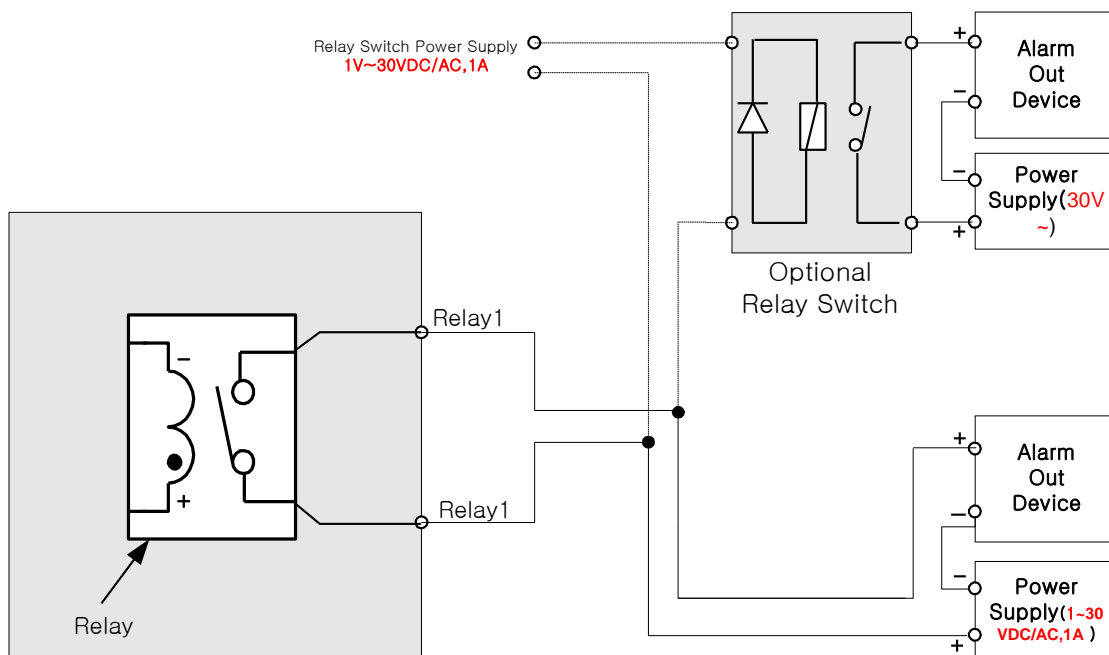

Fig. 6-5 Connection of Relay to Veilux VPIP-D110X / VPIPI-D110X
3.2 Connection of Relay(Fig.6-5)